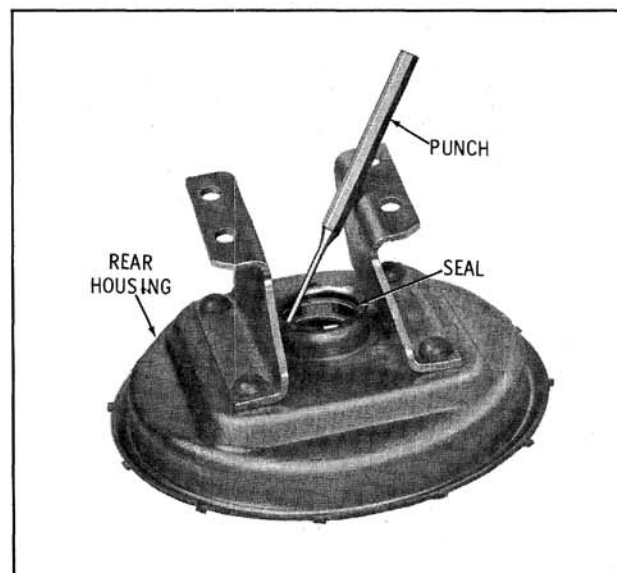

Fig. 11-60 Removing Rear Housing Seal
13. Remove the seal from the rear housing. (Fig. 11-60)